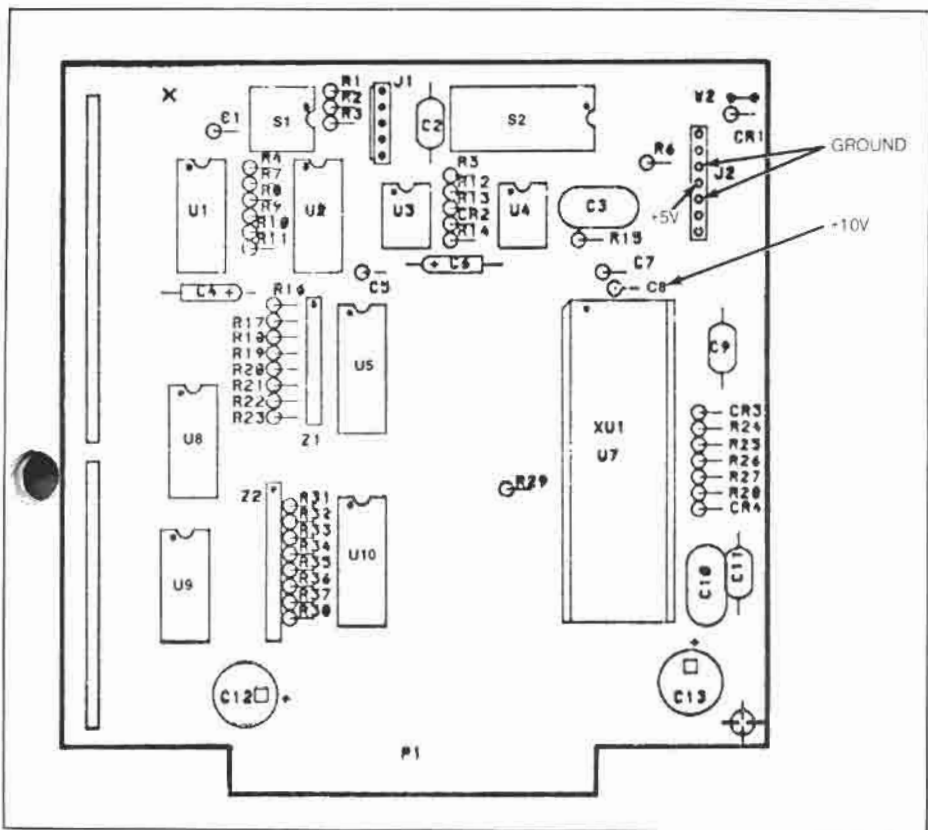

Figure 5-1. Axis/Display Board - Parts Layout
This section is primarily devoted to trouble-shooting the system. Table 5-1 will assist you in isolating the problem and making the proper repair. Figures 5-1 and 5-2 identify electronic parts and test points on both the typical axis/display printed-circuit board and the power supply board.
b. Voltage supply(ies) on the axis board inadequate.	b. For qualified electronic technician only: Check the +10V D.C. (may range from +8.5V to 10.5V) and +5V D.C. (must be $+5.1V \pm .05V$ ) supplies at points shown in Figures 5-1.
b. Low supply voltage.	b. For qualified electronic technician only. Check for low +5V D.C. (must be $+5.1V \pm .05V$ ) supply voltage. See Figure 5-1 (also see 2. b.).